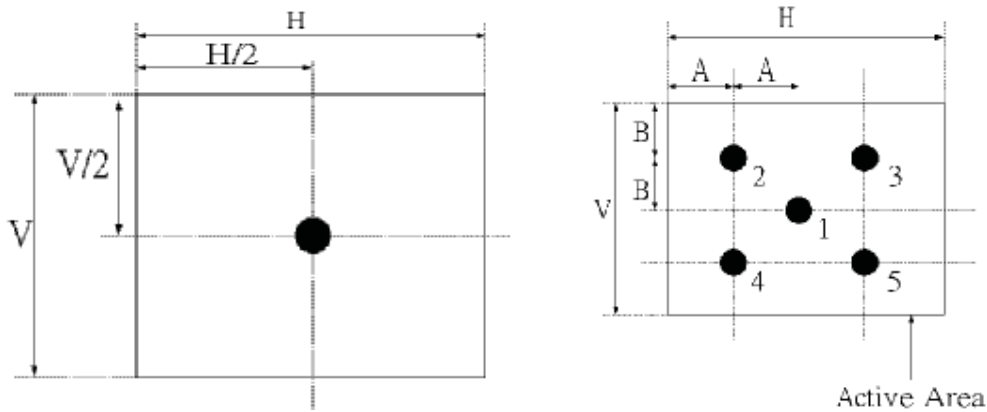

Fig.4-2 Optical measurement point
3. Surface luminance is luminance value at point 1 across the LCD surface 50cm from the surface with all pixels displaying white. From more information see FIG 4-2. When $I_{BL} = 6.5\text{mA}$, $L_{WH} = 550\text{cd/m}^2$ (typ.) $L_{WH} = L_{on1}$, Where L_{on1} is the luminance with all pixels displaying white at center 1 location.